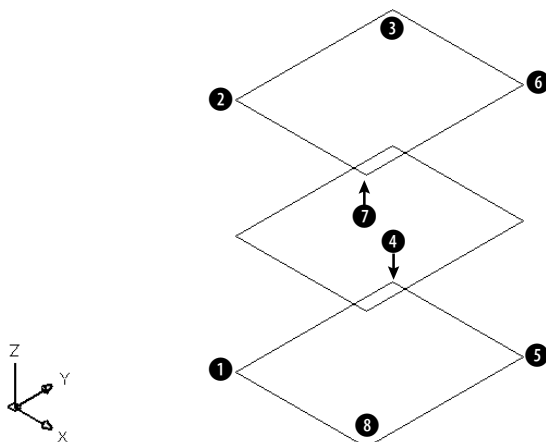

**Figure 23-4:** The three 3D faces from an isometric viewpoint.
Specify base point or [Displacement] <Displacement>: Pick 1 in Figure 23-4.
If necessary, zoom and pan so that you can see all three surfaces. Your drawing should look like Figure 23-4. You now have the top, bottom, and middle shelves of the cabinet.
Specify first point or [Invisible]: *Pick the endpoint at ❶ in Figure 23-4.*
**6. To draw the door of the cabinet, change the current layer to CONST. Start the LINE command and draw a line from ❷ in Figure 23-4 to 18<225. End the LINE command. Now start the COPY command and copy the line from ❷ to ❶. These two construction lines frame the door.**
Specify point on positive portion of X-axis <-0'-5 3/4",-0'-6 3/4",0'-0">: *Pick ❶ in Figure 23-4.*